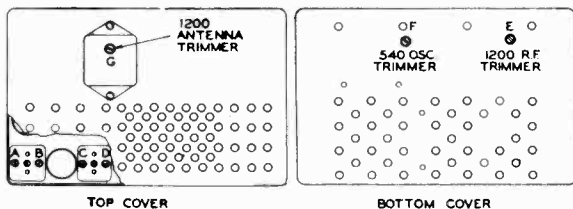

Fig. 4—Trimmer Positions.
3. Adjust trimmer F, Fig. 4, for maximum response.
6. Adjust E, Fig. 4, for maximum response.
5. Back off trimmer F, Fig. 4, to 1/3 of output reading.